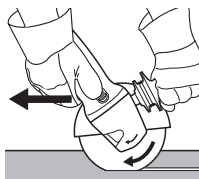

Fig. 3
- ◆ Always work against abrasive cutting (see Figure 3). Otherwise there is a risk that the machine can jump out of the cut in an uncontrolled manner. Work using moderate forward speed appropriate to the material being processed. Do not tilt, do not press, do not oscillate.